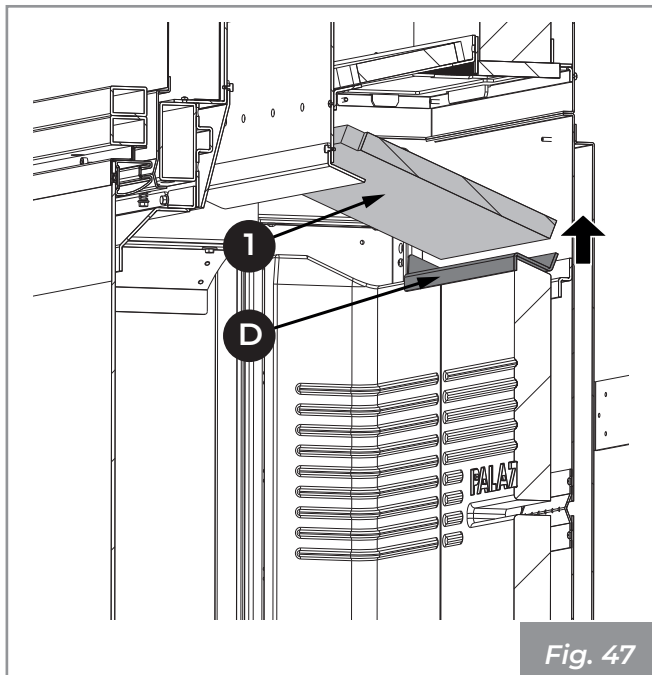

Fig. 47
- 4) Lift and extract first the panels (1) and then the refractory support bracket (D) (Fig. 47)